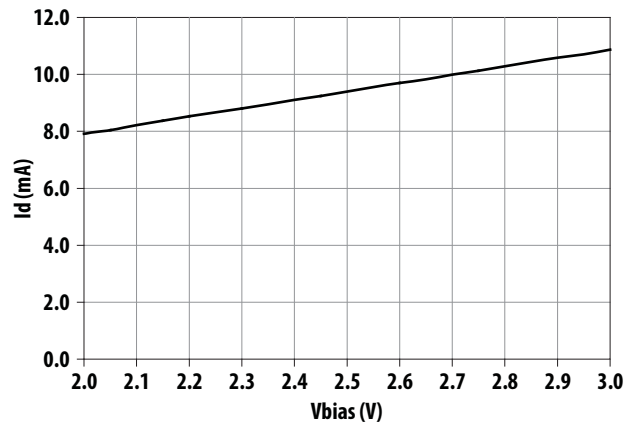

Figure 5. Id vs Vbias (Vdd = 3 V; Vsd = 0 V). Vbias is varies in this plot.
1. Device operation in LNA mode if $V_{bias} > 2.2\text{ V}$ and $V_{sd} < 0.5\text{ V}$. Bias current of LNA can be varied with different values of V_{bias} for $V_{bias} > 2.2\text{ V}$. See Fig 5 below.